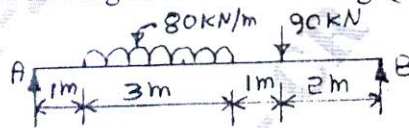

Fig.Q9(b)
b. Determine the shear force at a section located 3m from left support by constructing influence line diagram for the beam with loading as shown in the Fig.Q9(b).